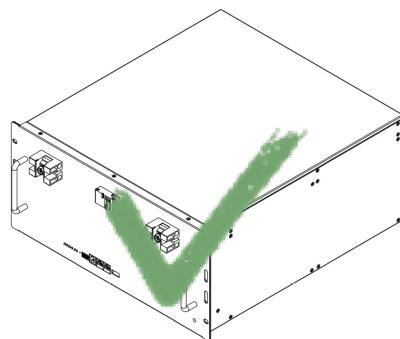

Figure 6-3 Right Way to Place Battery
- The VT48200B battery is preferred to be installed in flat position as Fig 6-3 shown.